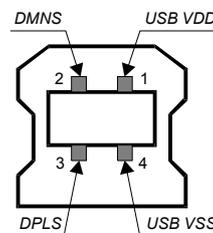

Fig. 2-25. Pinout of USB device connector for *TORNADO-E6x* (front view).
*TORNADO-E6x* on-board USB device connector is the industry standard USB type 'B' receptacle with pinout presented at figure 2-25. The mating plug is the USB device plug available on all host-to-device USB cables.